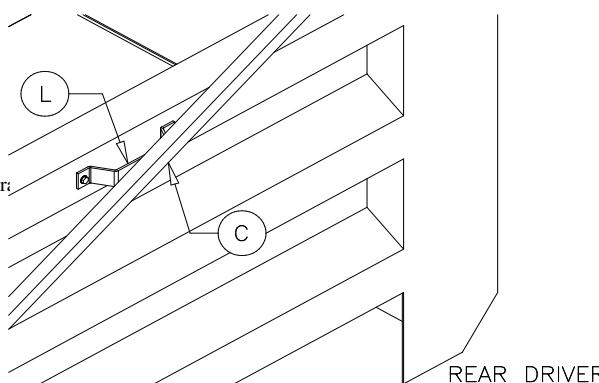

Figure 18
Procedure: Close the tarp. Place a pivot arm guide (L) along one of the ribs in the box wall (see Figure 18). Make sure the guide is aligned with the pivot arm (C) (see Figure 22). Mark the position of the pivot arm guide. Using a 9/32" drill bit, drill two holes into the box wall. Secure the pivot arm guide to the box wall with the 5/16"x1" self threading bolts provided.